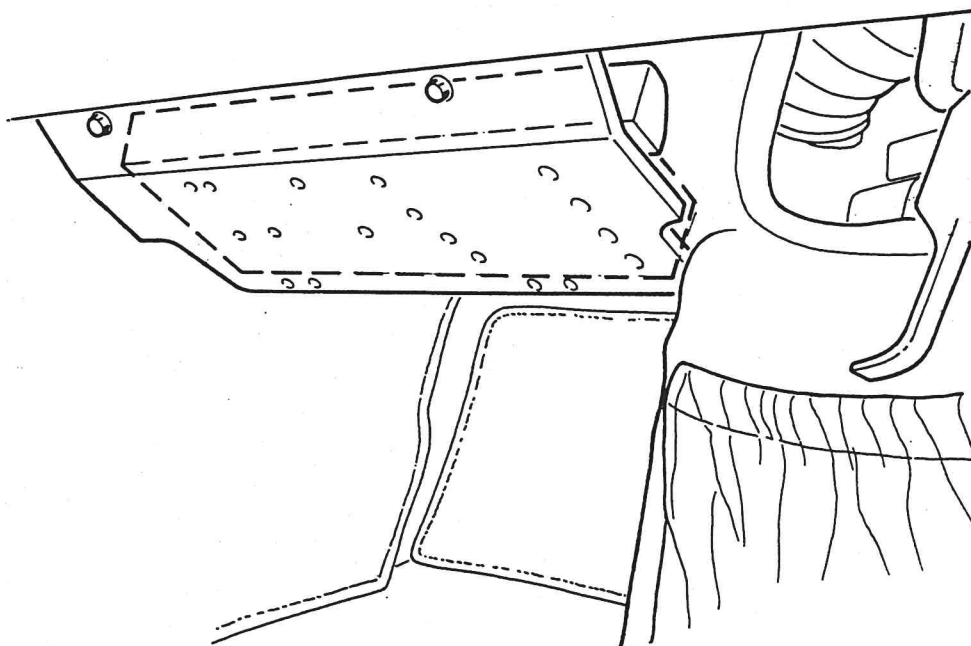

Fig. 4 Installation of Fuse and Relay Panel
1. Refer to Fig. 4. Fit fusebox mounting panel under the instrument facia using 4.8 x 10mm rivets with Sikoflex on joint.